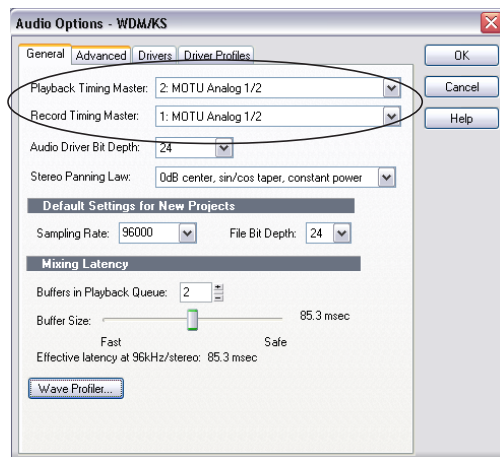

Figure 8-4: Make sure you have chosen an UltraLite input and output for the playback and recording timing master settings.
- 2 Choose an UltraLite input and output for recording and playback timing as shown below in Figure 8-4. It doesn't matter which input or output you choose.